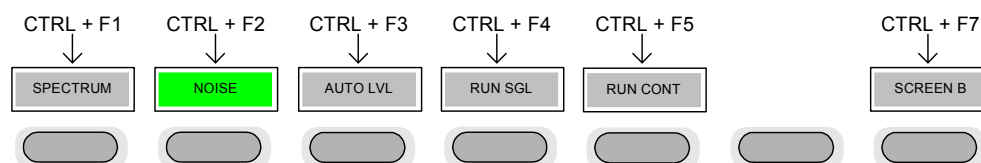

Fig. 6 Quick Access to Hotkeys
CTRL keys	Used to activate hotkeys. Each of the seven hotkeys is allocated a different function (F) key. To access these hotkeys press CTRL and the corresponding F key together (see Fig. 6):